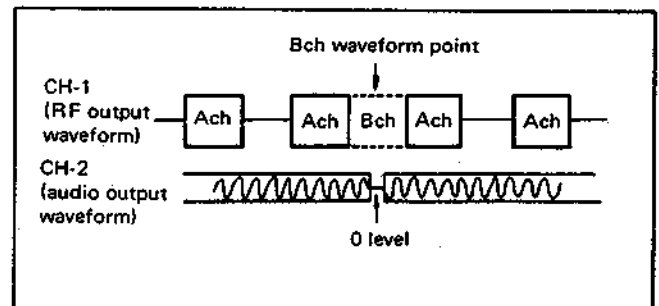

Fig. 2-23 Position Adjustment of ACE Assembly (1)
- (2) Play back (βII mode) the 1MHz segment of alignment tape KR5-2H (See Fig. 2-23).
- (3) Set the tracking control to the center detent position and confirm that the output waveform level is maximum and the 0 level point of the audio signal appears at the Bch waveform point as shown in Fig. 2-23. If the specification is not satisfied, perform the following Step 4.
- (4) Perform the tracking control center adjustment.
- (5) Set the TRACKING control knob to its center detent point and play back the 1MHz segment of the alignment tape (KR5-2H).
- (6) Loosen the two position adjusting screws of the ACE head and adjust the cut-out section of section A for maximum RF output waveform and a 0 level of audio signal at the Bch waveform point. (See Fig. 2-23.)
- (7) Play back the 1MHz segment of the alignment tape and confirm the proper picture appearance.
- (8) Tighten the position adjusting screw of the ACE head.